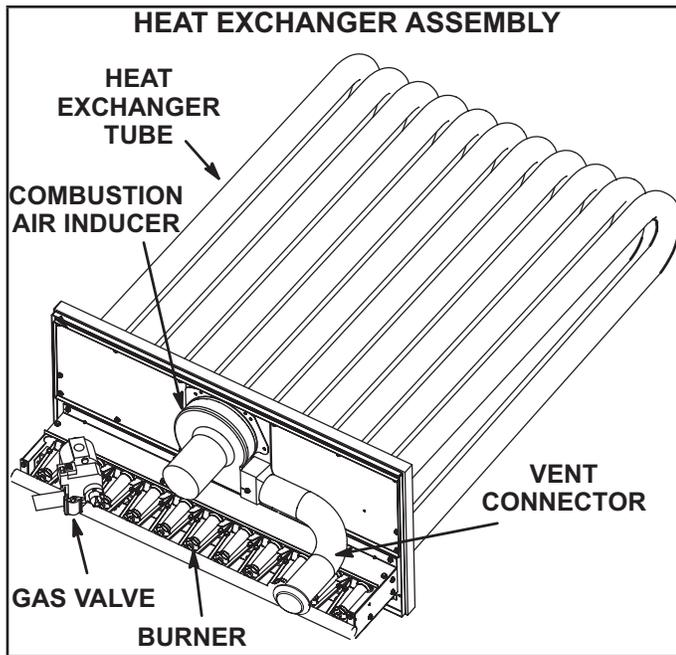

FIGURE 42
- 3 - Remove and retain screws securing combustion air inducer to flue box. Remove vent connector. See FIGURE 42.